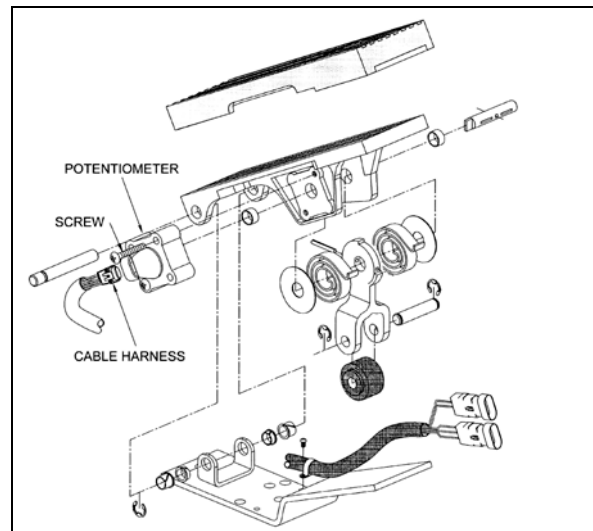

FIGURE 22: ELECTRONIC FOOT PEDAL ASSEMBLY⁰³⁰³⁵
3. Discard potentiometer (Figure 22).
2. Position new potentiometer. Press potentiometer onto the potentiometer shaft, matching cutouts in shaft to drive tangs of potentiometer. Apply hand pressure until potentiometer has bottomed out in housing. Reinstall screws (Figure 22) and tighten just enough to secure potentiometer lightly. Tighten screws to 10 - 20 Lbf-in (1.13 - 2.26 Nm).